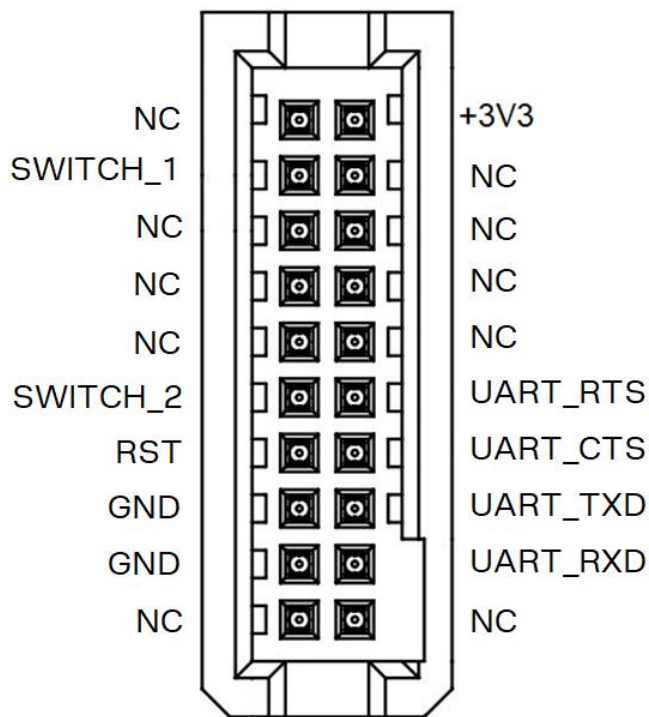

Figure 3: ANT-B11 Bluetooth LE 5.1 board pin assignment
ANT-B11 implements a PTSHSM-510-D-06-T-C, 20-pin header connector (J1) from Major League Electronics. The connector, shown in Figure 3, provides the physical interface for the ANT-B11 signals. The pins that are not used are marked as No Connect (NC). These pins are left floating at the connector side.